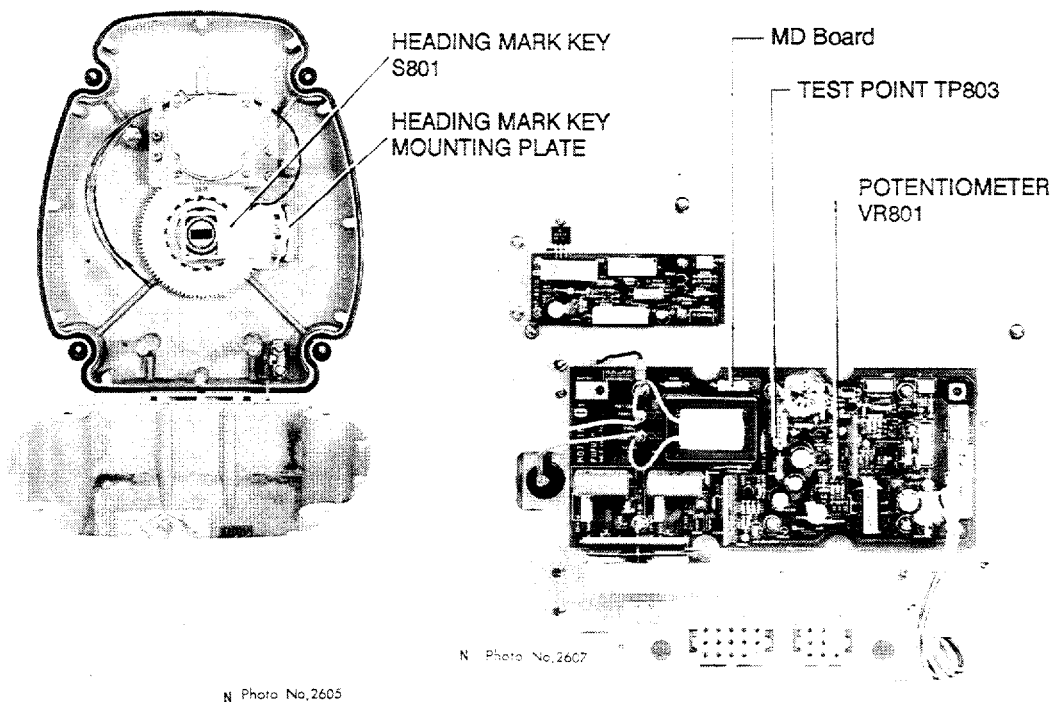

Figure 6-18 Scanner Unit
5. Open the scanner housing cover and **slightly** loosen the two screws which secure the heading mark key mounting plate. (See Figure 6-18.) Overloosening makes fine adjustment difficult.